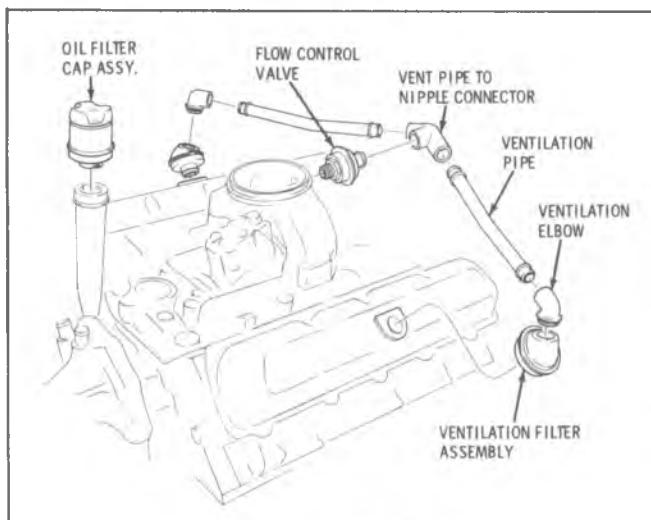

Fig. E-12—Ventilation System
4. Connect pipes to flow control valve in air crossover and ventilation filters in the valve covers. (Fig. E-12)